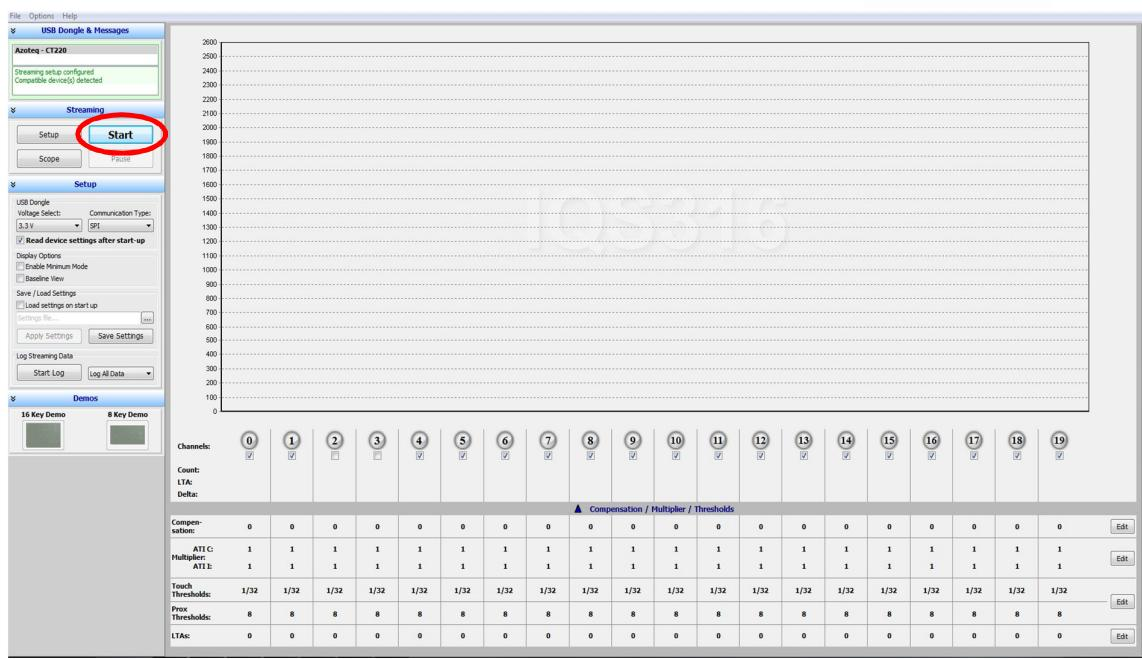

Figure 5.1 Start-up Screen for the IQS316 GUI
- After opening the GUI, the following screen is displayed as illustrated in Figure 5.1.
- Click on “Start” as illustrated in Figure 5.1.